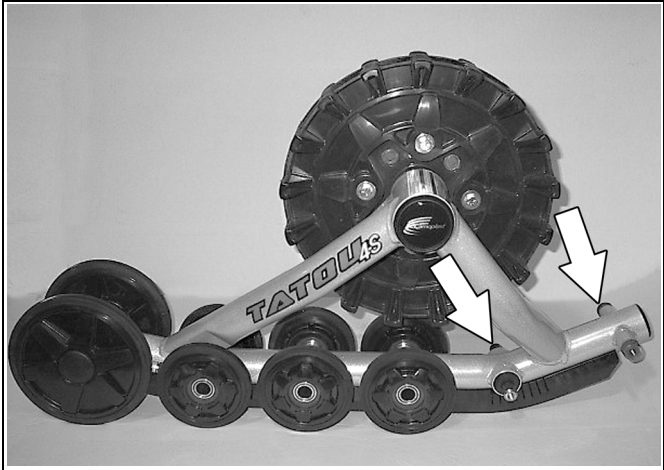

Figure 15
- Remove the two 8-in (200-mm) wheels opposite to the track tensioner side (refer to Figure 15).